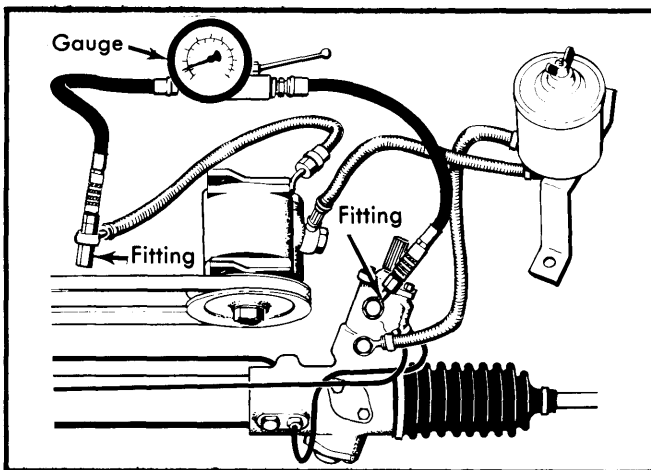

Fig. 1 Pressure Gauge Test Set Up
Testing – 1) Connect a pressure gauge as shown in Fig. 1). Make sure oil in reservoir is at level mark.
1) – With pressure gauge connected as shown in Fig. 1, and engine at idle, turn steering wheel fully to left, then fully to right, pressing at end position for a maximum of 10 seconds. Correct pressure should be 895-995 psi (63-69 kg/cm²) for the Saginaw pump and 825 psi (58 kg/cm²) for the ZF pump.